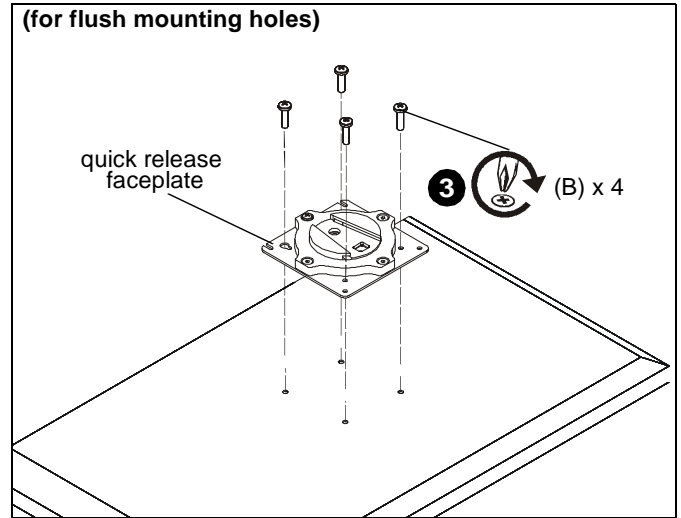

Figure 7
- Using Phillips screwdriver, carefully install four M4x14mm screws (D) through corresponding holes on faceplate and into the mounting holes on the display. (See Figure 7)